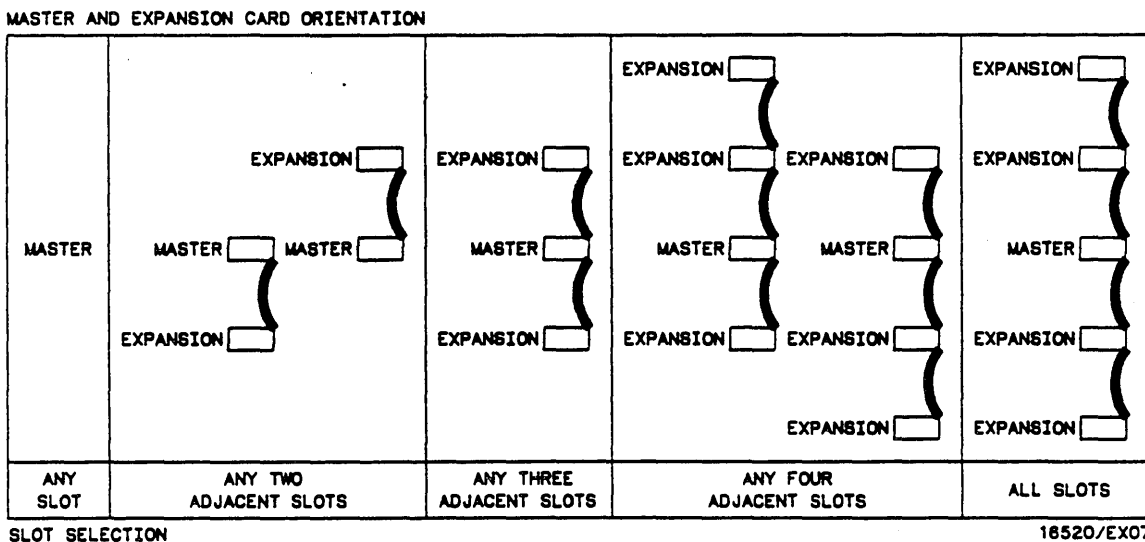
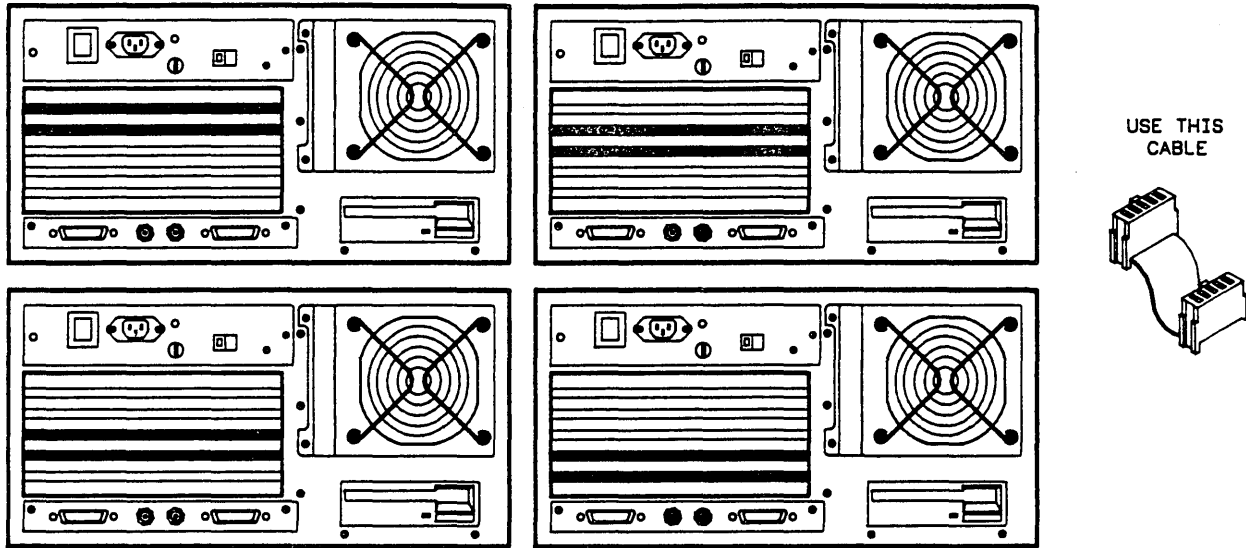

Figure 2-1. Installation Guide
Figure 2-3. One Master and One Expansion Card
- If previously installed modules prevent proper installation, they must be repositioned in the card cage. See figure 2-1.
- To maintain the channel-to-channel skew and adequate intercard signal quality, the shortest intercard connecting cable should be used and the expansion cards should be no more than two slots away from the master card. See figure 2-1.
Figure 2-1 is a guide in choosing the correct intercard connecting cable and illustrates the expansion card position relative to the master card. Use this guide at step d in the following procedure.
- d. If the module consists of one master card, this card can be installed in any available slot. If the module consists of multiple cards, use figure 2-1 and figures 2-3 through 2-6 to plan your card configuration.
- f. Use figure 2-11 and figures 2-3 through 2-6 to plan the new configuration and to select the proper intercard connecting cable.